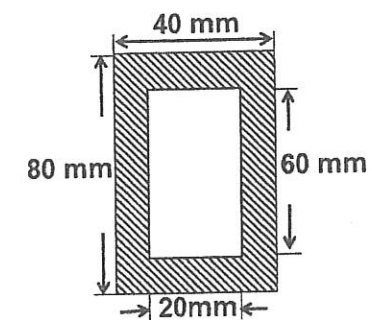

Figure 3(a)/ Rajah 3(a)
- a). A simply supported beam with cross-section as shown in Figure 3(a) below. Determine the value of Neutral Axis and Second Moment Area of the beam.